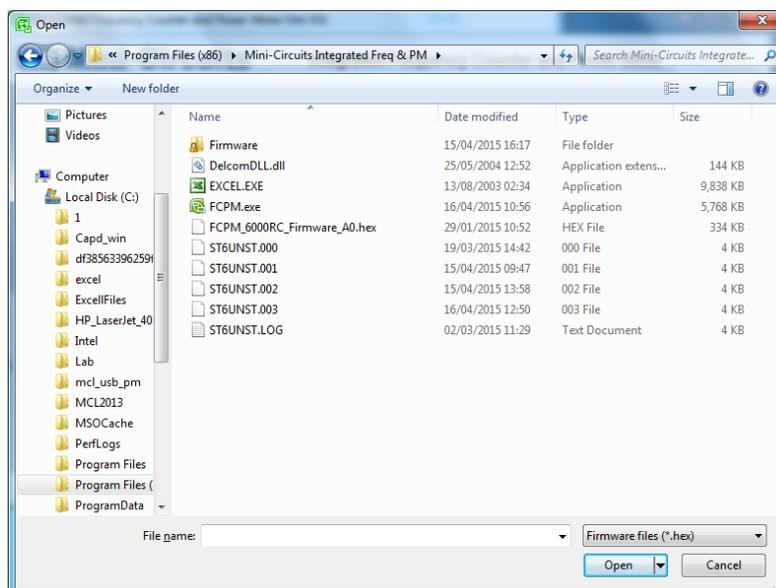

Figure 3.8.3: Firmware - Browse Window
3.9.3 **Clicking on the 'Update Firmware' will open a browse** window to the firmware directory under the path you selected when installing the GUI program (See **Fig. 3.8.3**). Navigate to where you saved your firmware file, select the firmware version you wish to install and click 'O.K'.